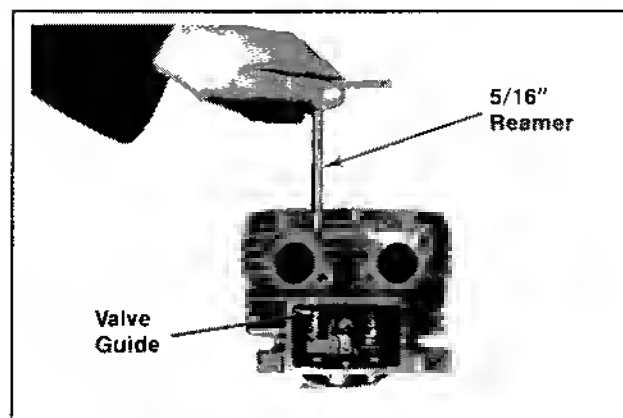

Figure 10-8. Reaming Valve Guide.
3. Valve guides are often slightly compressed during insertion. Use a piloted reamer (Refer to Section 2, "Special Tools") and then a finishing reamer to resize the guide bore to .3125". Refer to Figure 10-8.